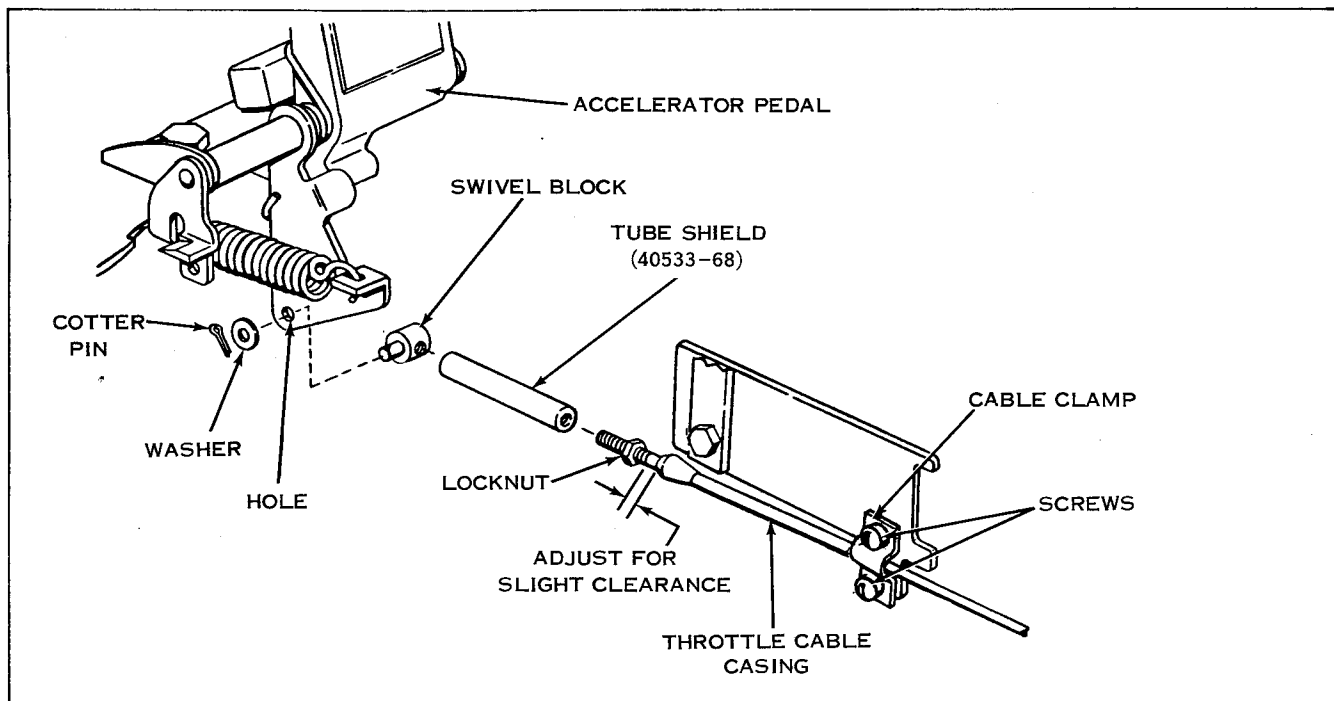

Figure 3F-34B. Throttle Controls - 1968 and Later D, 1969-1972 DC
**Governor Control Adjustment (Figure 3F-34A):**